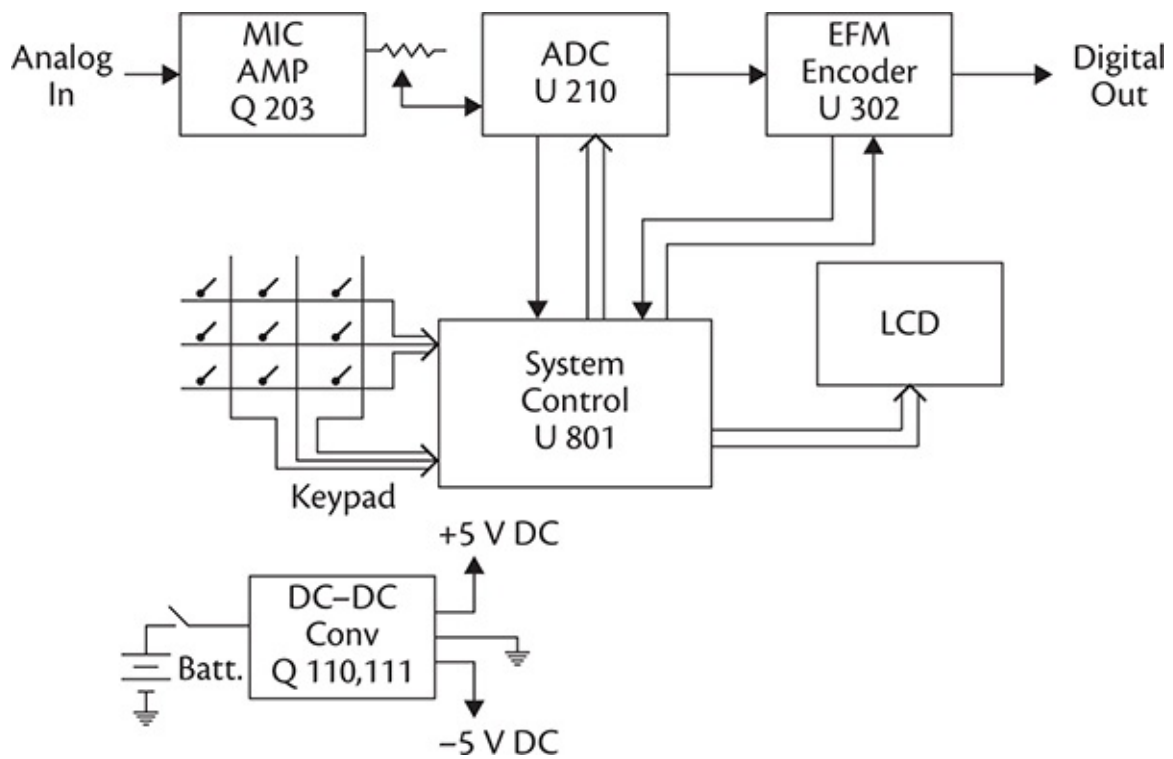

FIGURE 8-1 Block diagram.
- *Block diagram.* This lays out the device by the function of each section and its basic interconnections. It does not show individual components or specific connection points. It's the most general, conceptual view, analogous to a map showing cities and route numbers for major highways between them, but not street-level detail (Figure 8-1).